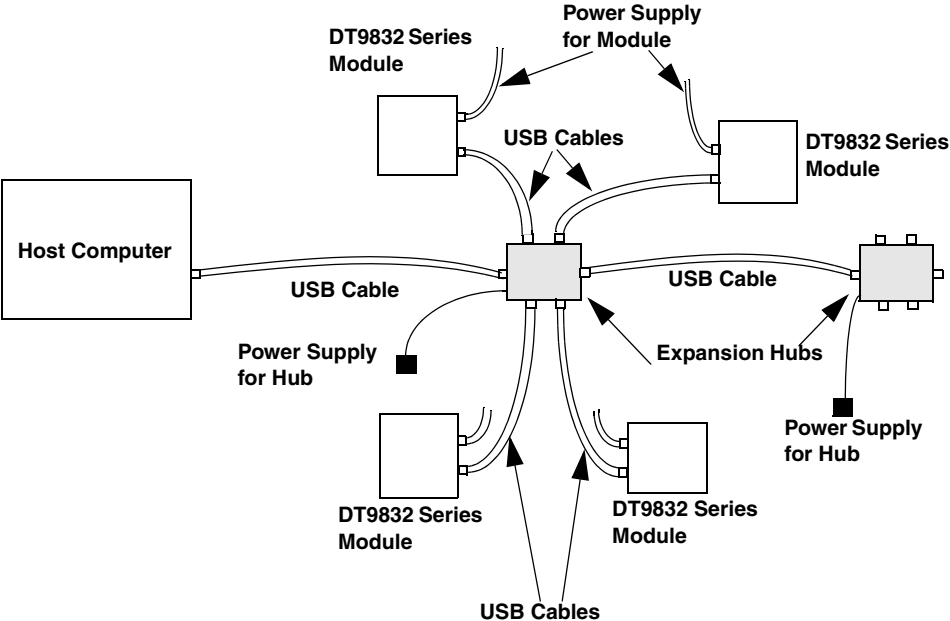

Figure 4: Attaching Multiple Modules Using Expansion Hubs
6. Repeat these steps until you have attached the number of expansion hubs and modules that you require. Refer to Figure 4.